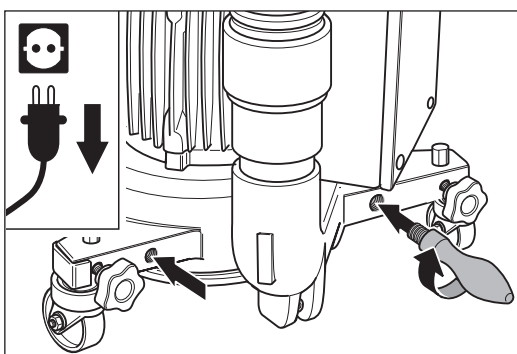

Fig. 30 The machine handle can also be screwed into the fan housing.
- 4 Screw the machine handle into the right-hand side or into the left-hand side of the fan housing and then tighten the handle firmly by hand (Fig. 30).